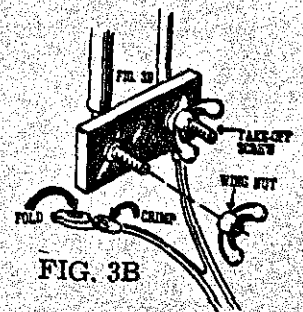

FIG. 3B
2. Crimp Terminal Prongs securely to Lead-in Wire insulation. See Figure 3B.
3. Fold the free end of Terminal over and place onto #10 Take-off Screws. Tighten in place using Wing Nuts supplied. See Figure 3B.